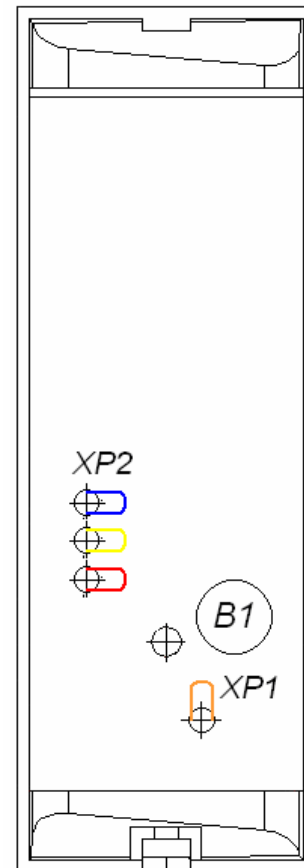

Figure 4. Piezoelectric element (*B1*), jumpers «reader number» (*XP2*), jumper «switch off end-of-line resistor» (*XP1*)
- Using the three jumpers **XP2** (see Fig. 4 and Table 1) set the reader number, for which you need to snap the necessary jumpers with a pliers. Cut bridges should not contact other bridges and with a metal base.